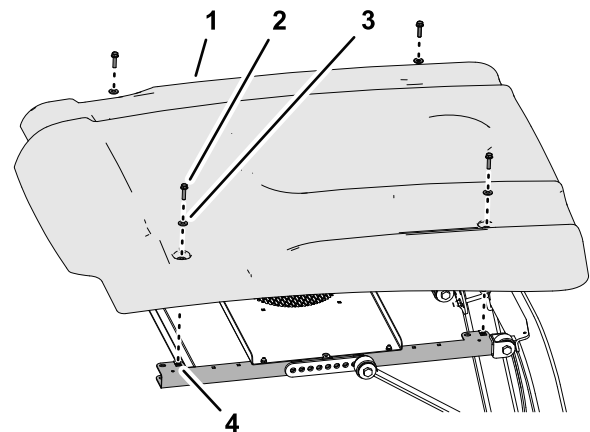

Figure 10
2. Assemble the sunshade to the frame channels (Figure 10) with the 4 flange-head bolts (5/16 x 1-1/4 inches) and 4 washers (5/16 inch) that you removed in 2 Removing the Sunshade (page 2).